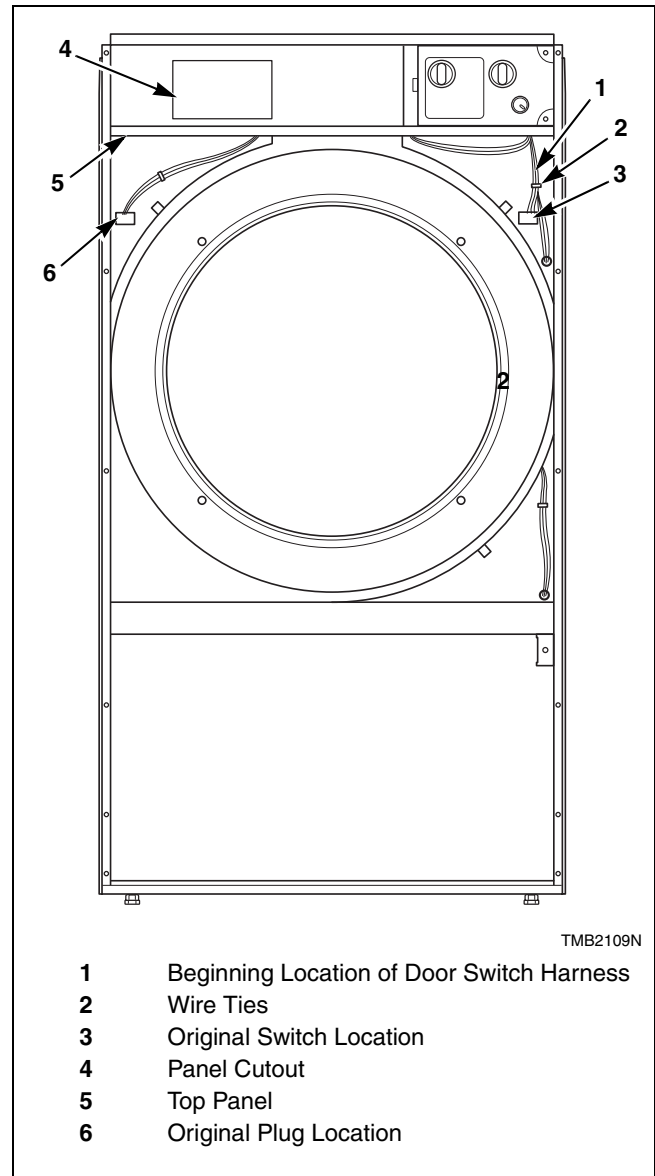

Figure 5
7. Cut wire ties to remove door switch harness bundle. Be careful not to damage harness wires. Refer to *Figure 5*.